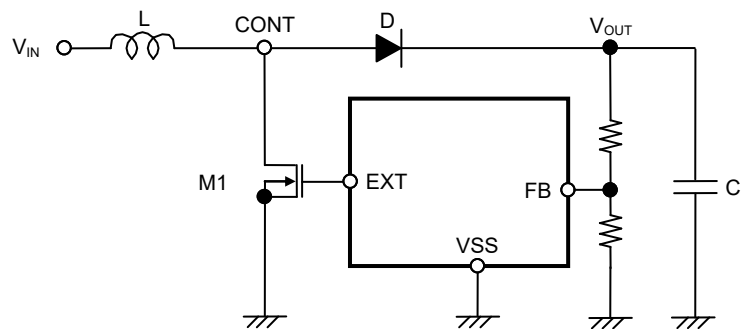

Figure 9 Step-up Switching Regulator Circuit for Basic Equations
The following are basic equations [(1) through (7)] of the step-up switching regulator (refer to **Figure 9**).